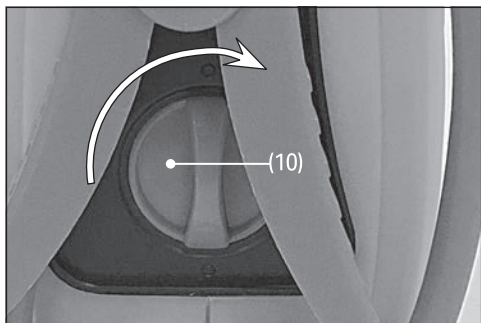

Fig. 3
6. Turn the jump-start lead isolator to the on (I) position **ONLY** when instructed to supply power in the vehicle manufacturer manual (Fig. 3).
- a. The negative terminal clamp (14) **MUST** be disconnected from the battery within 15 seconds of the vehicle starting.
- c. Disconnect the positive terminal clamp (16) from the battery and return the clamps to the jump starter housing.